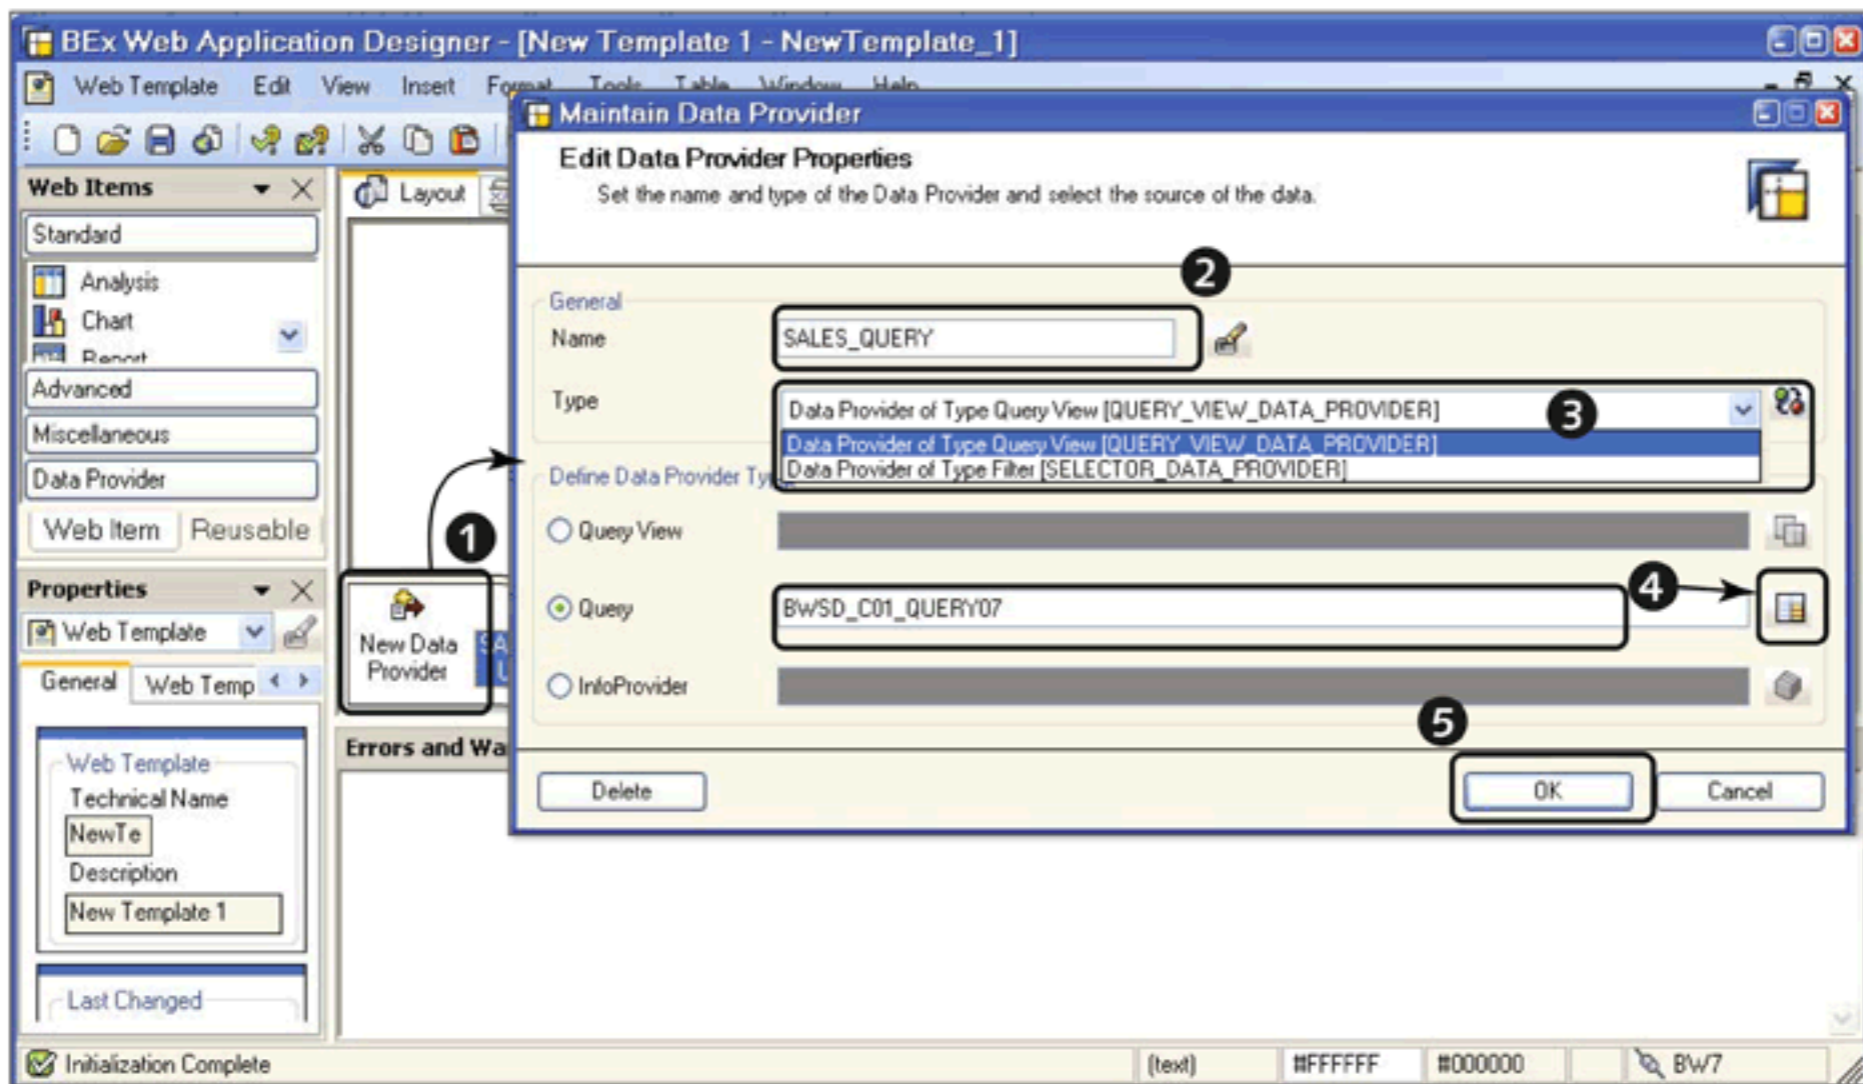

Figure 11.4 Create Data Provider
The basis for the web items displaying data in a web template is a data provider. As a first step, create the data provider that should be used by different web items in a web template. To create a data provider in a web template, click on the NEW DATA PROVIDER icon, shown in ❶ of Figure 11.4. A pop-up box titled MAINTAIN DATA PROVIDER appears.
Give a name to the data provider (❷ of Figure 11.4). This data provider is referred to by different web items in the query using this name.
There can be different types of data providers. The queries defined in BEx Query Designer, query views, query filters, and SAP NetWeaver BW InfoProviders can be used as data providers in a web template. The dropdown shown in ❸ of Figure 11.4 allows you to select the data provider type. The DATA PROVIDER OF TYPE
If you select DATA PROVIDER OF TYPE QUERY VIEW, you can further select an option from among QUERY VIEW, QUERY, or INFOPROVIDER. For this example scenario, select the QUERY option, and select the query that should be used as a data provider using the INPUT HELP button shown in 4 of Figure 11.4.
Click on OK (5 of Figure 11.4) to complete the definition of the data provider and to return to the web template layout screen.